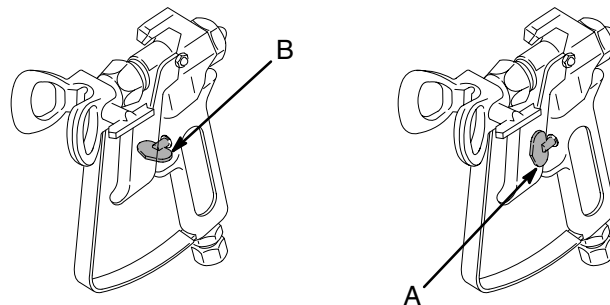

Fig. 4 0137
- b. Unlock the gun trigger safety. See reference A in Fig. 4. Follow the warning, above, and trigger the gun until all air is forced out of the system and the fluid flows freely from the gun.
- c. Release the trigger. Lock the gun trigger safety. See reference B in Fig. 4.